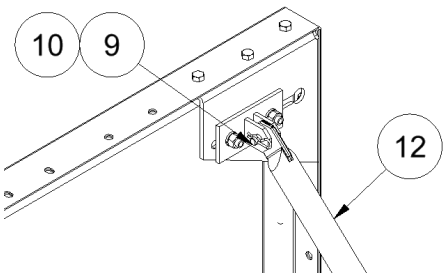

Figure 7
- Attach the Backboard Brace yoke, item 12, to the brackets installed in step 7 using the 3/8" Clevis Pins, item 9, and Hitch Pins, item 10, as shown in figure 7.